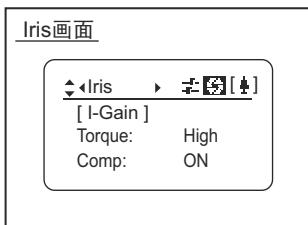

Fig1-6
4. Iris screen (See Fig. 1-6 below)